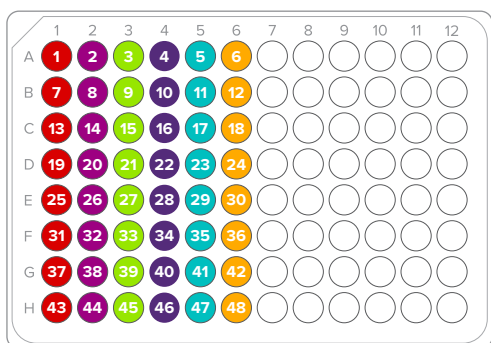

Figure 2. Layout of 20X assay pools and sample mixes
- 3 In a DNA-free hood, combine the following components in wells of a new PCR plate or in 8-well strips according to the layout shown (see Figure 2):
- 2 In a DNA sample hood, pipet these components into each well of the new 96-well plate (follow the layout shown in Figure 2):